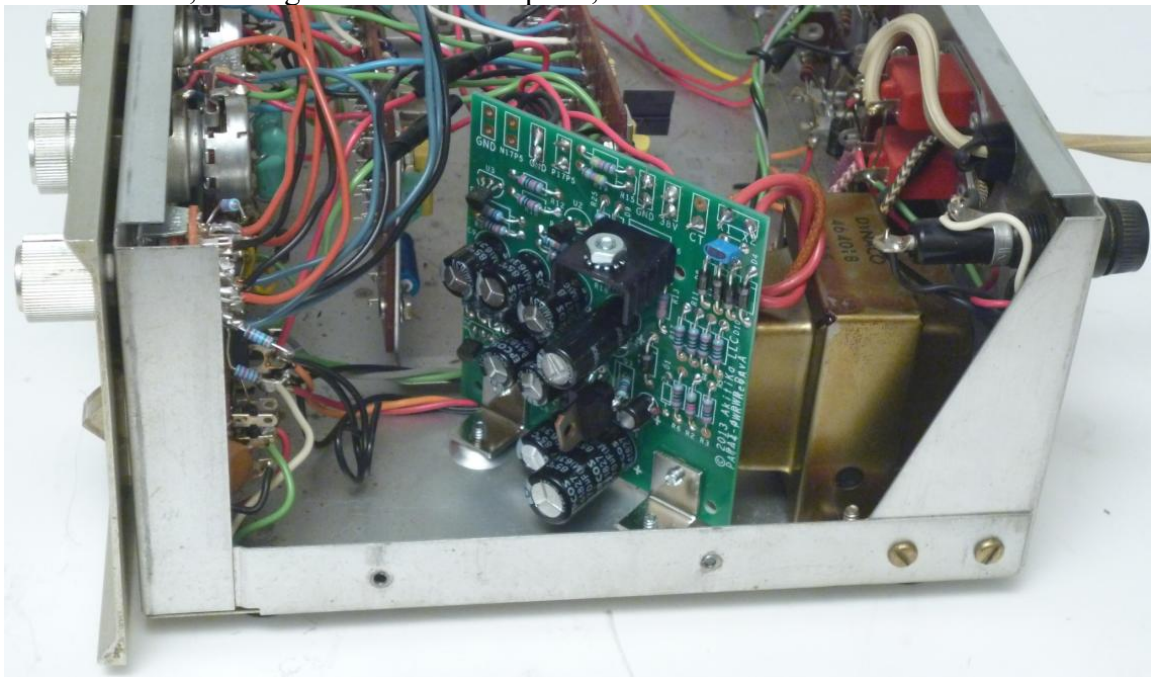

Figure 5-New Power Supply Installed in PAT-4 (this PAT-4 has tone control defeat switch)
2. Use the old mounting holes from C29 to fasten the brackets to the chassis. Figure 5, on the next page, may also clarify this bit of the assembly. Use the provided pair of 6-32x1/4" sems screws.